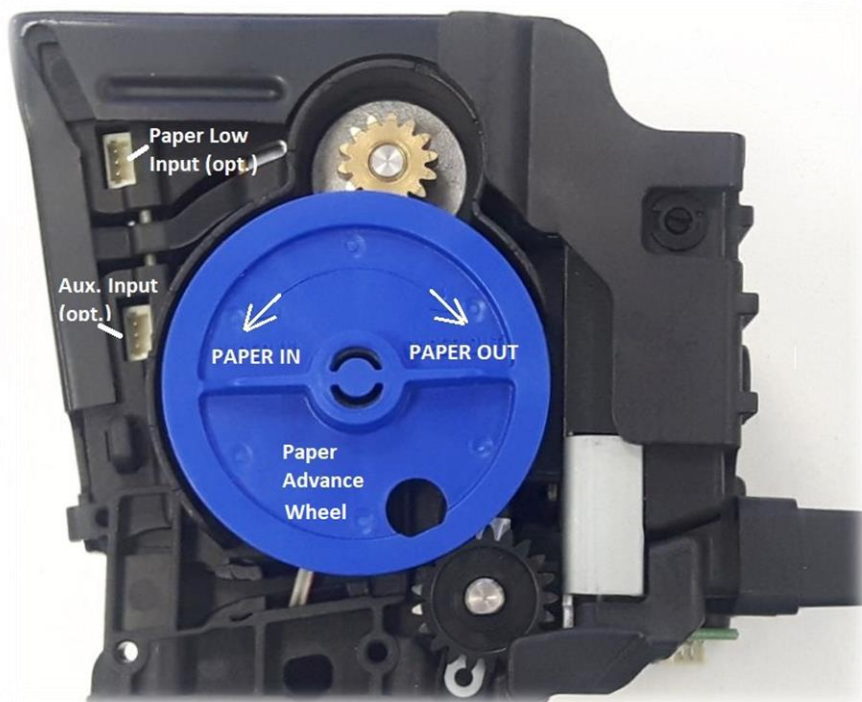

Figure 4
- Figure 4 shows the opposite side of an eXtendo®, showing the Paper Advance Wheel and the Paper Low and Auxillary Sensor connectors.